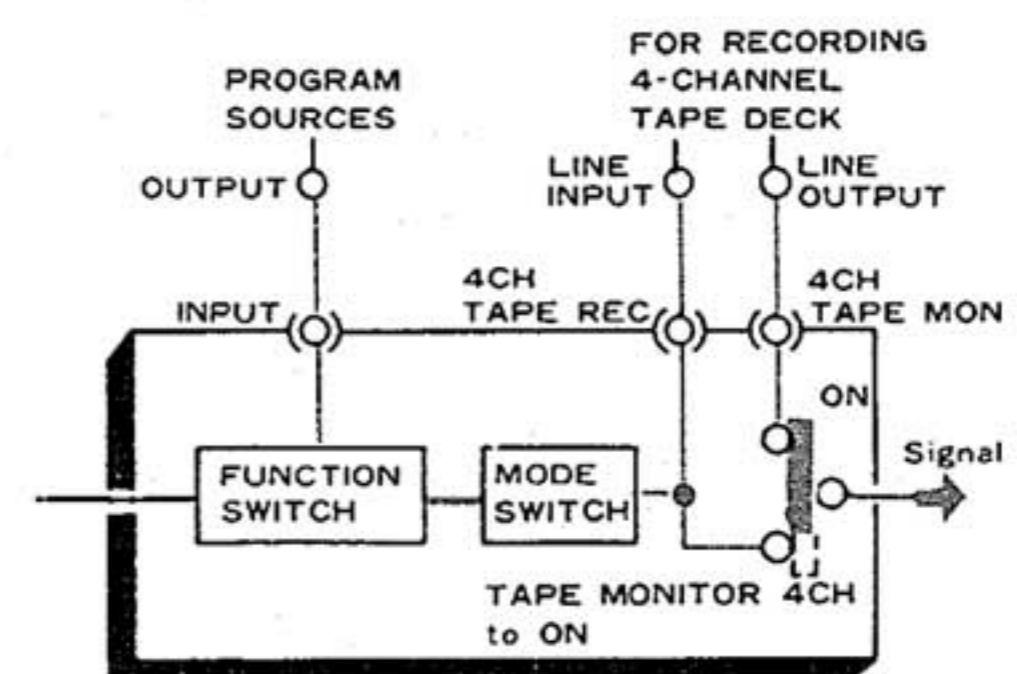

Fig. 22
**4-channel Tape Recording:** The FUNCTION switch selected program source appears at the 4CH TAPE 1, 2 REC (DOLBY NR ADAPTOR OUT) terminals on the rear panel according to the MODE switch setting. Perform recording procedures according to the selected program source(Fig. 22).